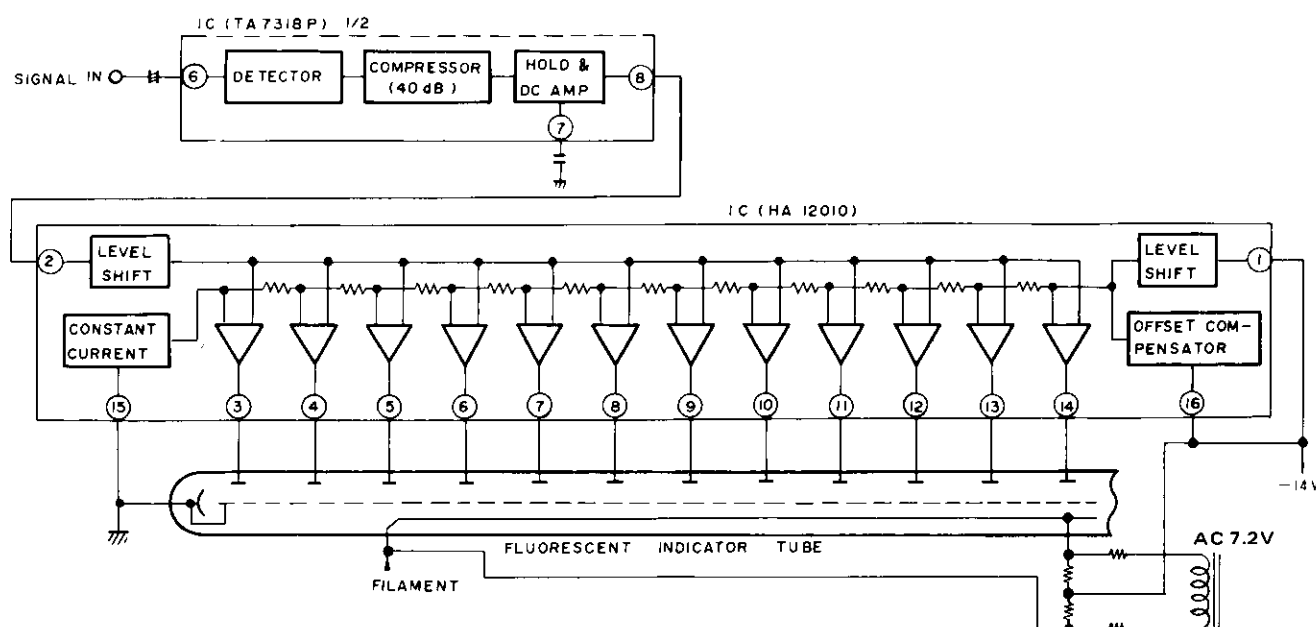

Fig. 4-9 Power indicator circuit
An outline of the FL tube drive circuit is shown in Fig. 4-9. The output circuit signal is applied to pin no.6 (4) of the IC (TA7318P-A). The IC contains a detector circuit, compressor (40dB), and peak hold circuit for both left and right channels. The dynamic range of the signal is thus contracted by 40dB to obtain a "peak held" DC voltage.